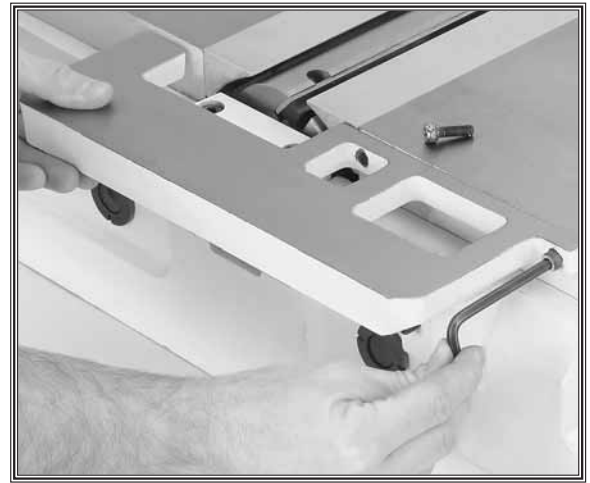

Figure 15. Attaching extension table to jointer.
16. Use the two M6-1 x 20 cap screws to attach the extension table to the front of the jointer, as shown in **Figure 15**, but do not fully tighten the cap screws yet.